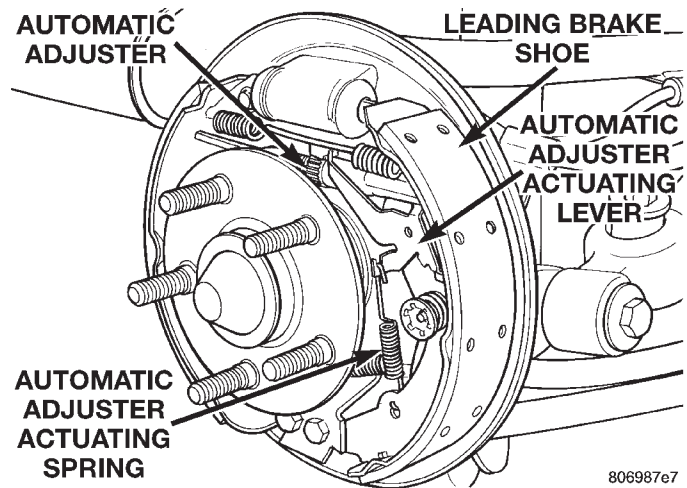

Fig. 60 Automatic Adjuster Actuating Spring And Lever
- (4) Remove the automatic adjuster lever actuating spring from the leading brake shoe (Fig. 60). Then remove the automatic adjuster actuating lever from the leading brake shoe (Fig. 60).
(10) Install the automatic adjuster actuating lever and the actuating spring on the leading brake shoe (Fig. 60).
(11) Manually adjust the brake shoes assemblies out as far as possible but not so as to interfere with brake drum installation.
(12) Install the rear brake drums on the hubs.
(13) Adjust rear brake shoes per Adjusting Rear Brakes procedure in the service adjustments section of the service manual.
(14) Install the wheel and tire assembly.
(15) Tighten the wheel mounting stud nuts in proper sequence until all nuts are torqued to half